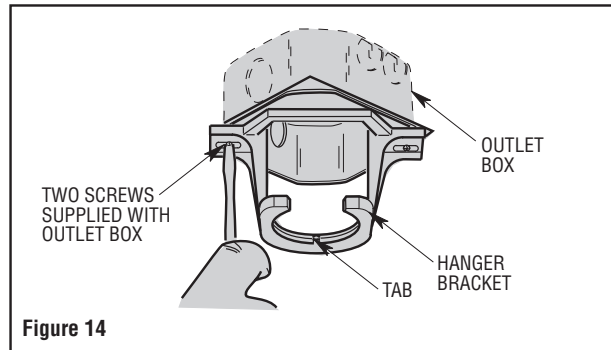
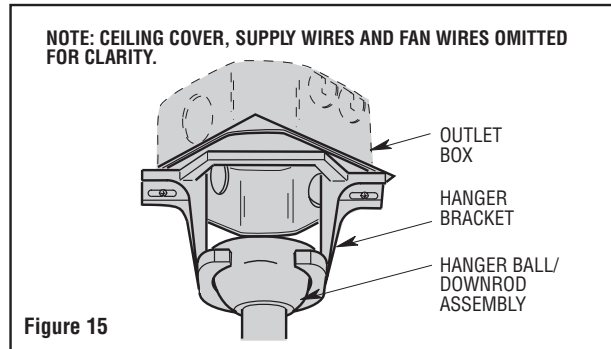

Figure 14
Figure 15
1. Securely attach the hanger bracket to the outlet box using the two screws supplied with the outlet box. (Figure 14.)
2. Carefully lift the fan and seat the hanger ball/downrod assembly on the hanger bracket that was just attached to the outlet box (Figure 15). Be sure the groove in the ball is lined up with tab on the hanger bracket (Figure 14).